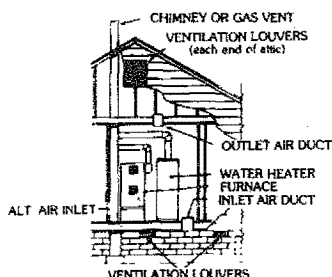

Figure 3
1. When directly communicating with the outdoors, each opening shall have a minimum free area of 1 square inch per 4,000 Btu per hour of total input rating of all equipment in the enclosure. (See Figure 3.)